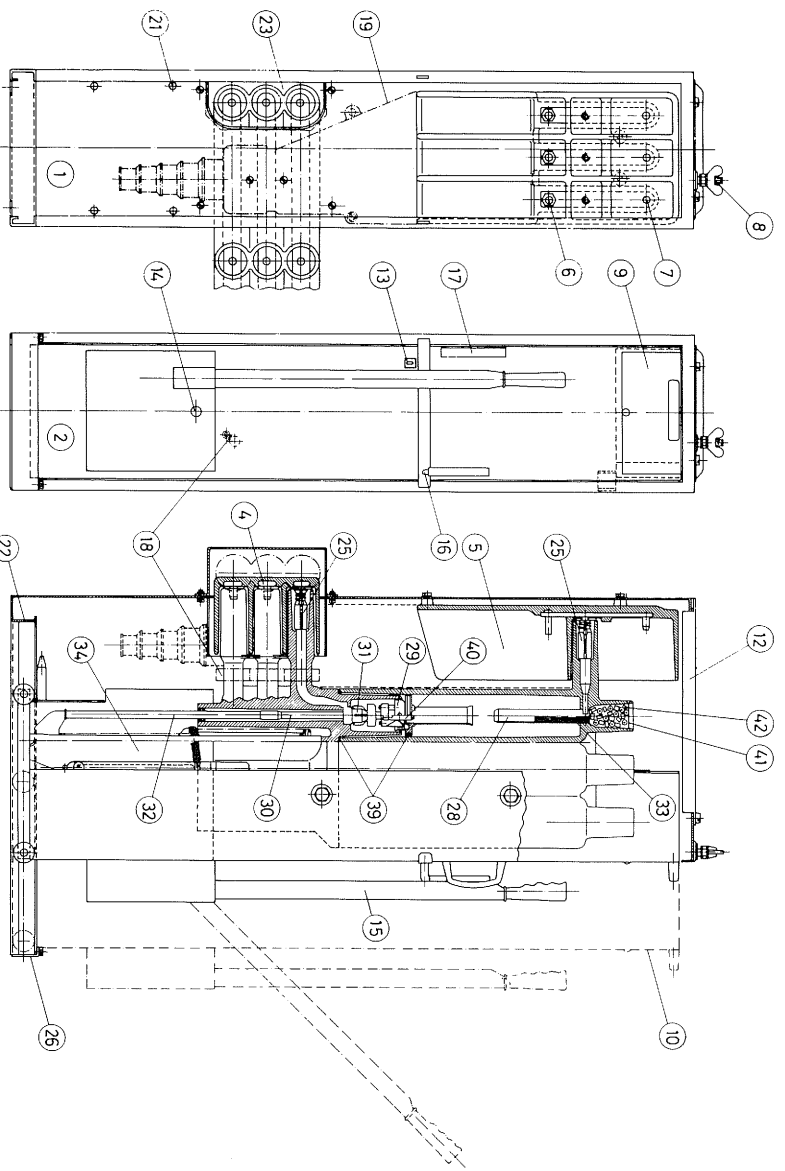
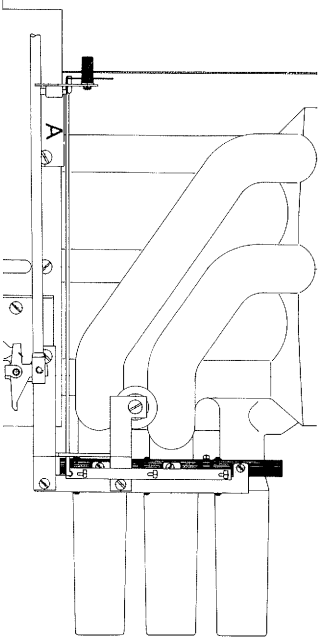

Fig. 4
Fig. 12
3. DESIGN AND MODE OF OPERATION, Fig. 4
Earthing of the cable is done by means of a special earthing device which is connected to the earthing terminals, Fig. 4 (7), on the cable termination. A conventional high-voltage tester may be used to control that the earthing terminals and consequently the cable are dead.
Short-circuit indicator (Fig. 12) with a operating current of 1000 A. The short-circuit indicator is of the 3-pole type and operates on 1-, 2- or 3-phase fault currents. A common visual indicator with re-setting mechanism is placed on the front cover of the switch, Fig. 4 (18).
A micro-switch for remote short-circuit indication may be supplied on request, Fig. 12-A.